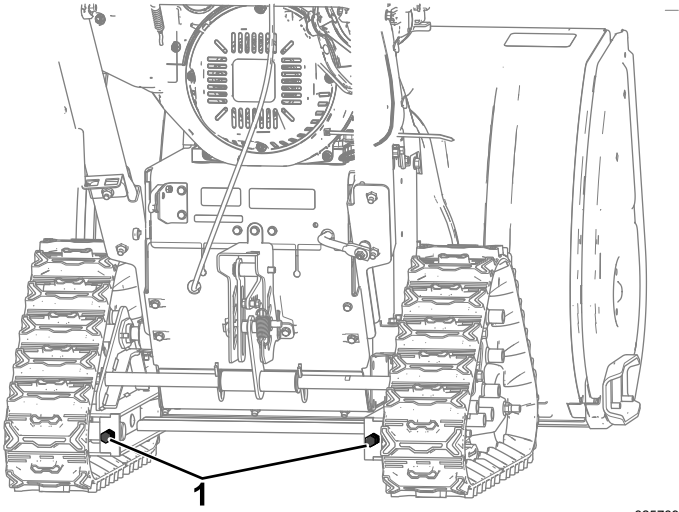

Figure 27
- B. Adjust the hex head bolt as needed (Figure 27).